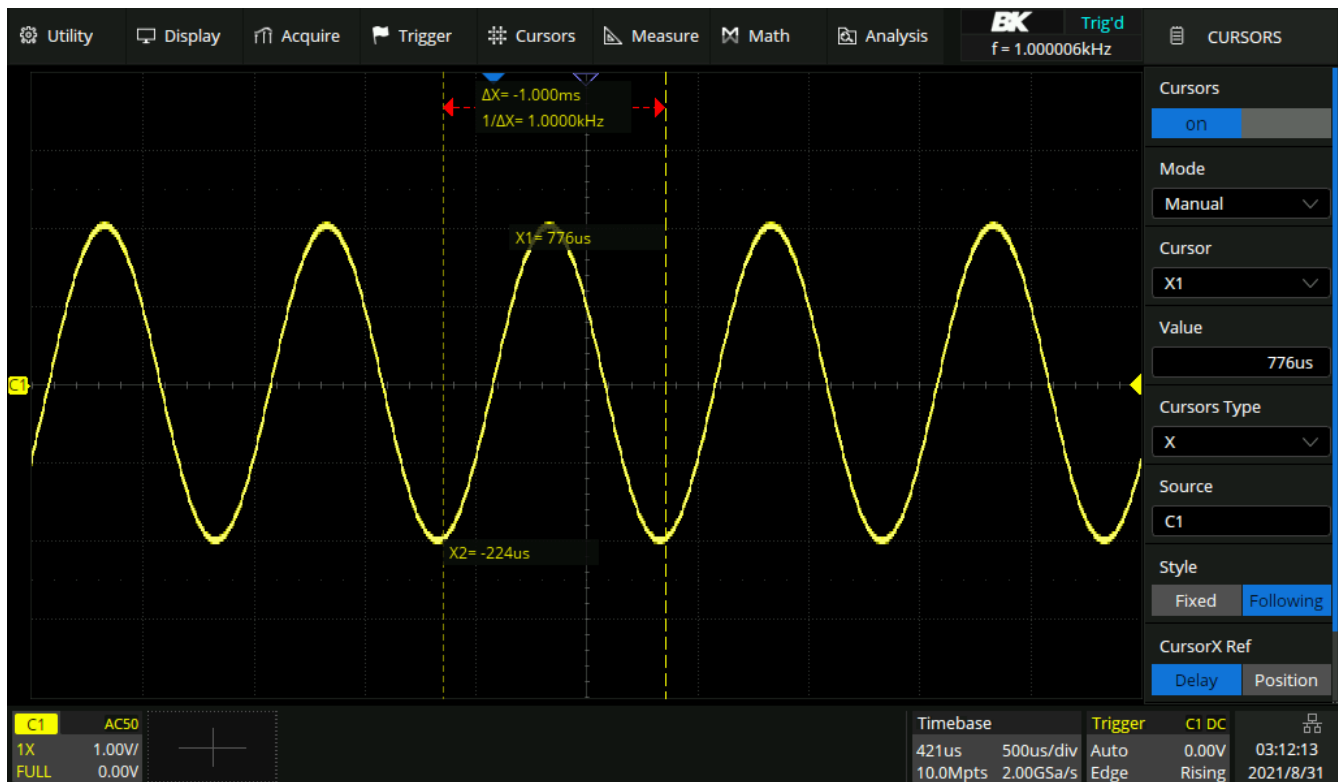

Figure 11.1 Manual Cursor Mode
- Manual: Manually set the cursors' position. Cursors type (horizontal, vertical, horizontal + vertical) is available in this mode. Figure 11.1 demonstrates manual mode with horizontal cursors.